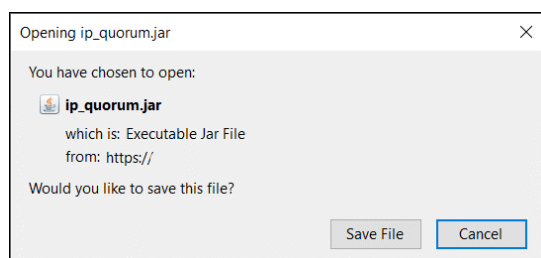

Figure 4-107 IP Quorum Java application
3. After you select your correct IP configuration, IBM Spectrum Virtualize generates an IP Quorum Java application, as shown in Figure 4-107. The application can be saved and installed in a host that is to run the IP quorum application.